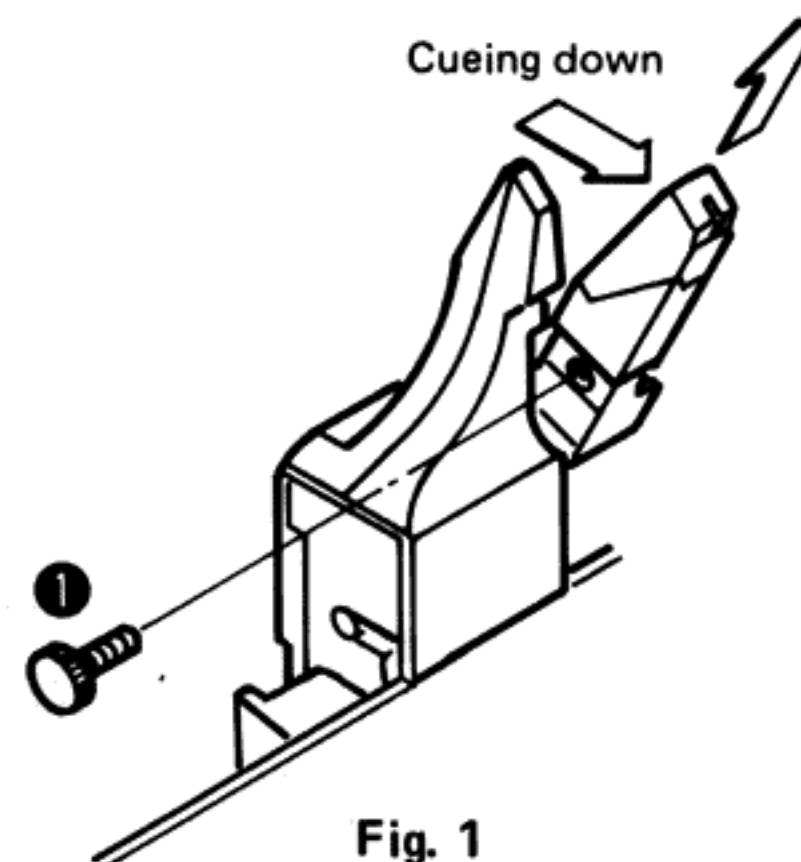

Fig. 1
3. Remove the cartridge setscrew (Fig. 1: ①), and pull out the cartridge.